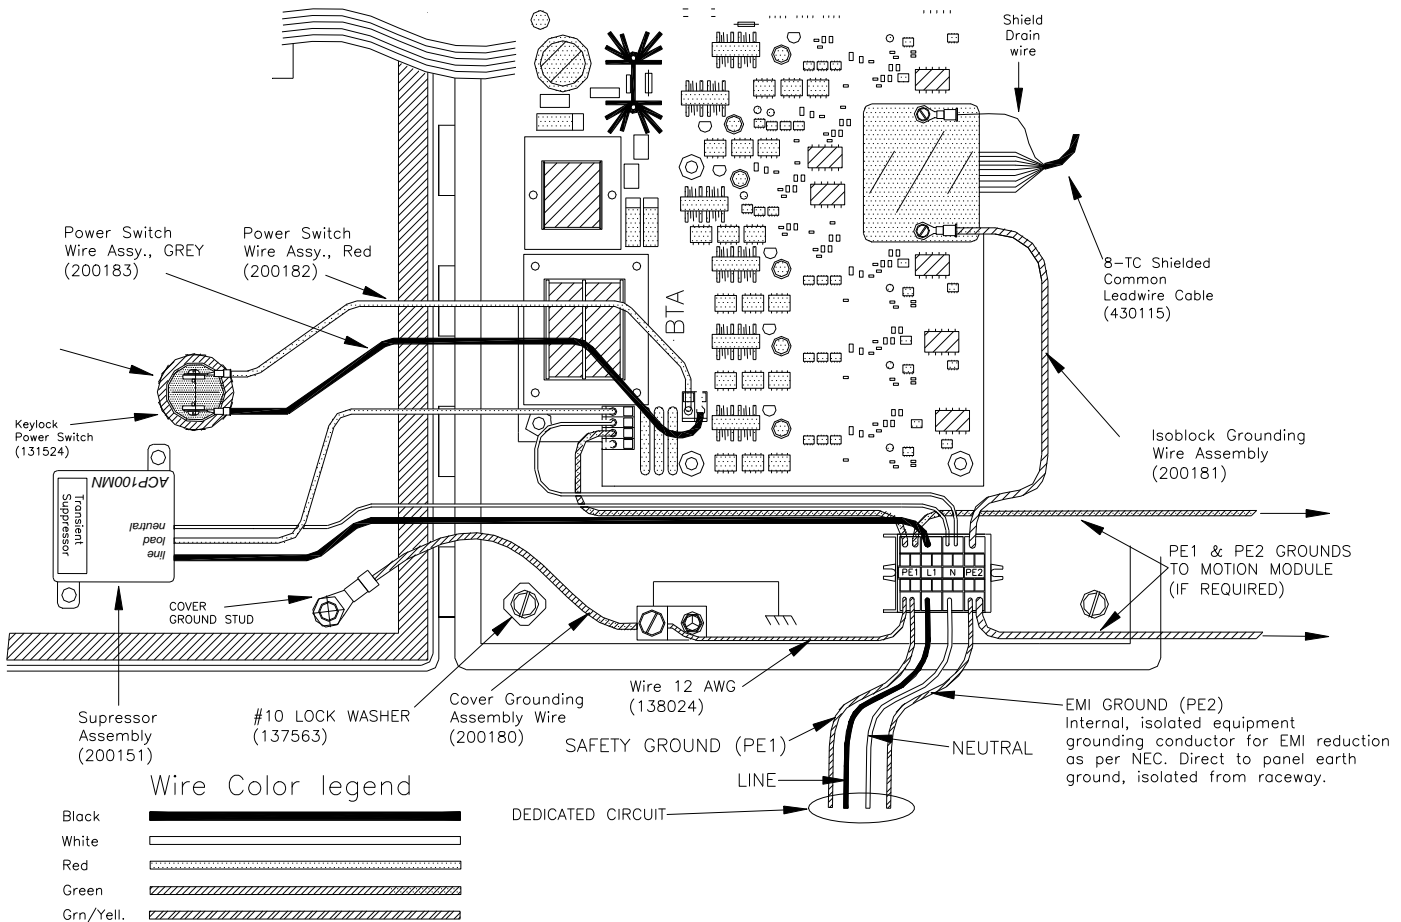

Figure 4. Power & Grounding Connections
3.3.1. LINE POWER AC line voltage (110 – 120 VAC, 60 Hz) must be provided to the *Thermocouple and Power Supply Board* (AS# 200050) in the *BTA Instrument* enclosure. Earth Ground must be provided as well, to take advantage of Lightning and Transient protection features. Leave connections to a qualified electrician. For best results, a dedicated circuit from the supply panel plus an additional, separate EMI Ground is highly recommended. See Figure 4 below.
3.3.2. GROUNDING Figure 4 shows that in addition to the standard circuit safety ground (PE1), an additional EMI ground (PE2) has been provided for. This is allowed for under the NEC for electronic equipment.